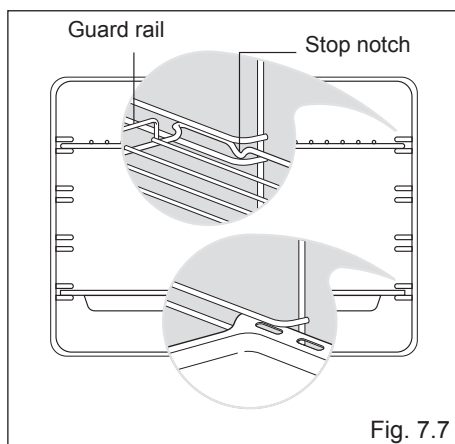

Fig. 7.7
- Slide into the guides, the shelf and the tray (fig. 7.7).